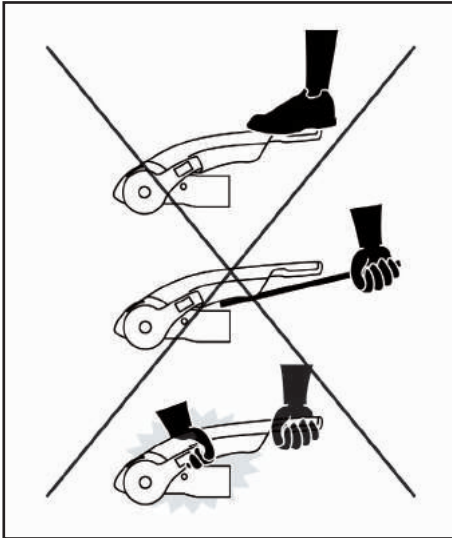

FIG. 6.
2. Press the stabiliser lever down by hand only, DO NOT use your foot or an extension bar: this will damage the components (Fig. 6).
3. When opening or closing the stabiliser lever, please ensure your hand does not touch the coupling handle to avoid injury (Fig. 6).